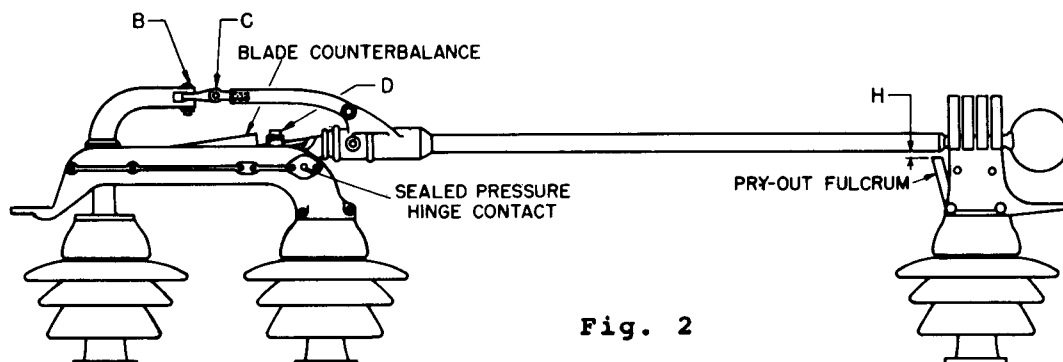

Fig. 2
In Fig. 2, dimension (H) can vary from about  $1/8''$  to  $5/8''$  or a little more, with the switch in the closed position. It is not usually possible to get this dimension to be equal on all poles of a three-pole switch. If necessary to vary this dimension, remove crank pin (B) and screw clevis (C) in or out  $1/2$  turn then reconnect and try switch. Repeat if necessary, but be very careful not to screw clevis (C) out too far so that the blade is forced down hard against the fulcrum. This can cause damage to internal parts at the hinge end.